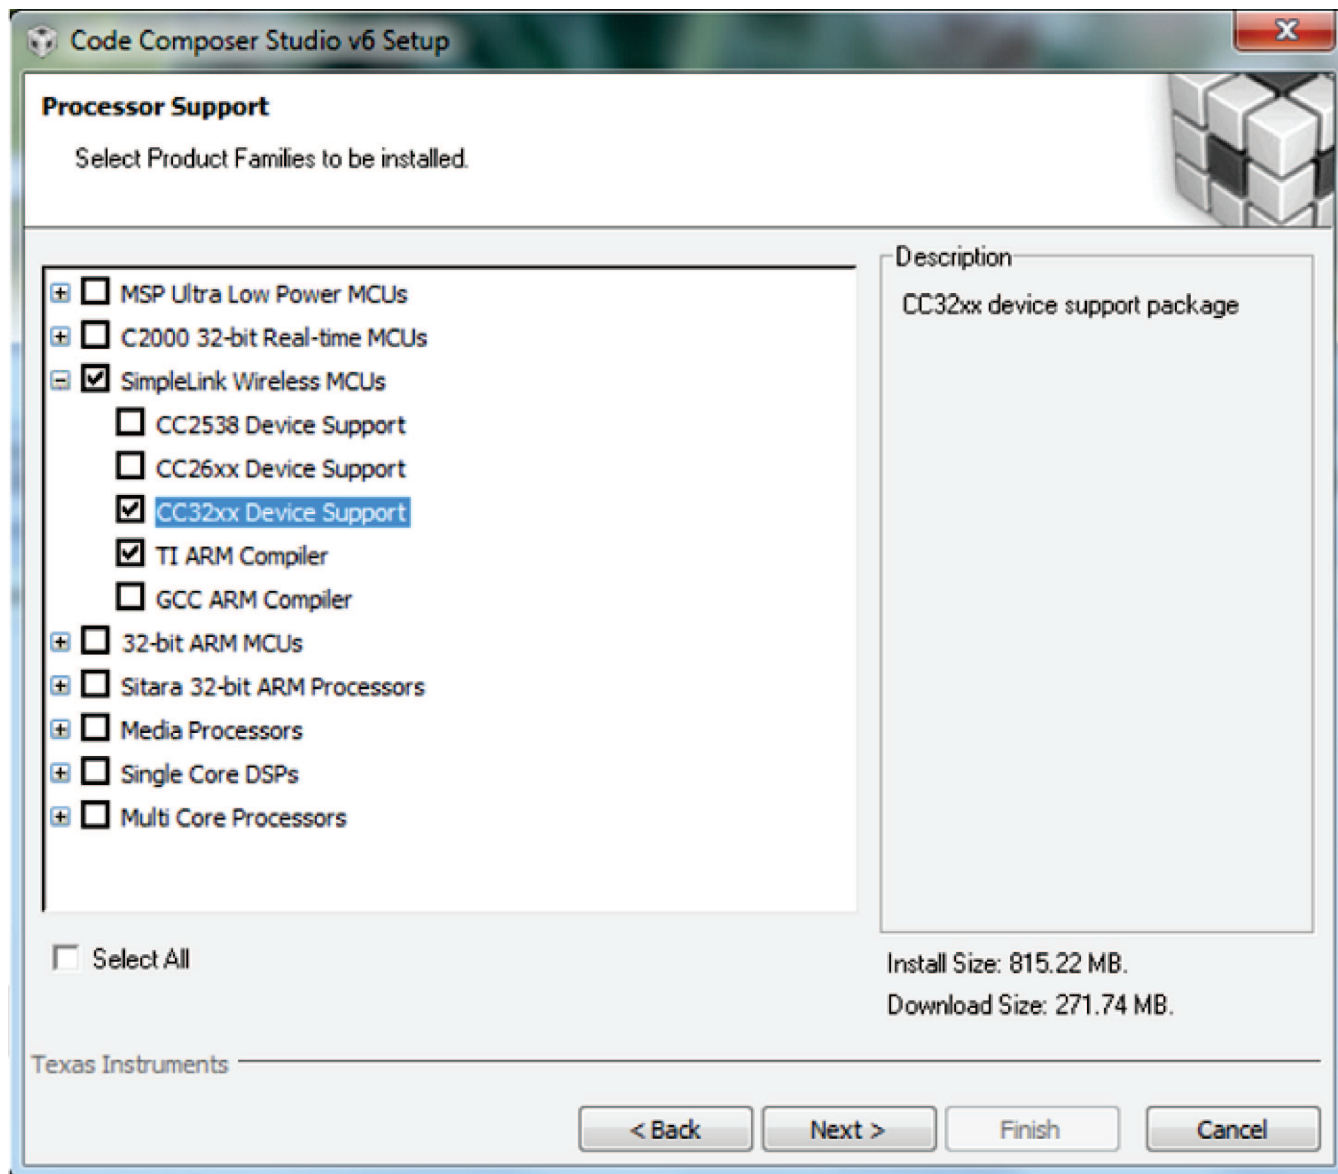

Figure 2-11. Set Up CCS
2. Make sure to select the SimpleLink Wireless MCUs option for processor support, as shown in Figure 2-11. Click Next to continue.